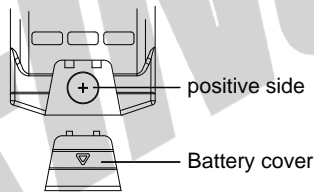

fig.1
1. Put CR2032 battery into the gage, the positive side should face out. (fig.1)